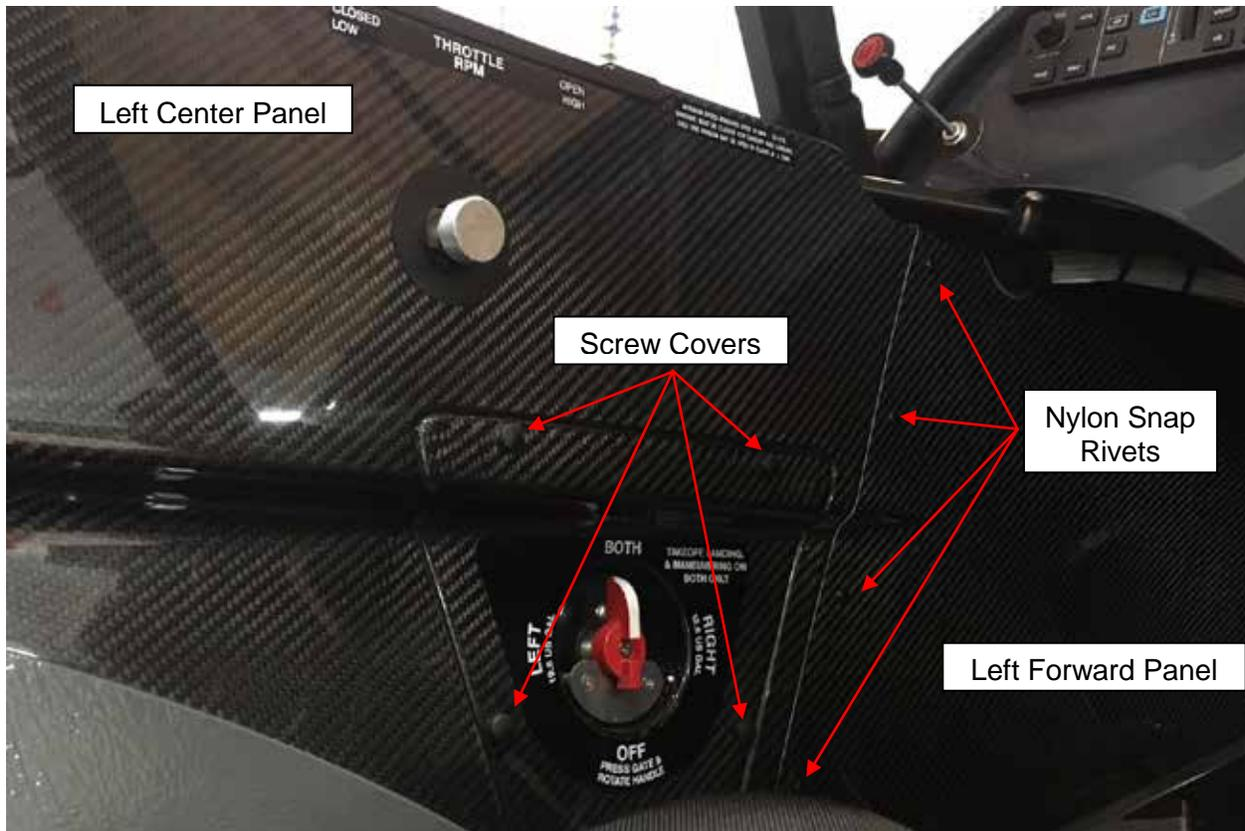

Figure 8a – Left Side Panels
(1) REMOVE LEFT CENTER INTERIOR PANEL
- (a) Remove fuel selector handle, gate and fuel selector panel from the left center panel (refer to Chapter 28). Note that the screws for the fuel selector panel have covers over them to be removed first (see Figure 8a).